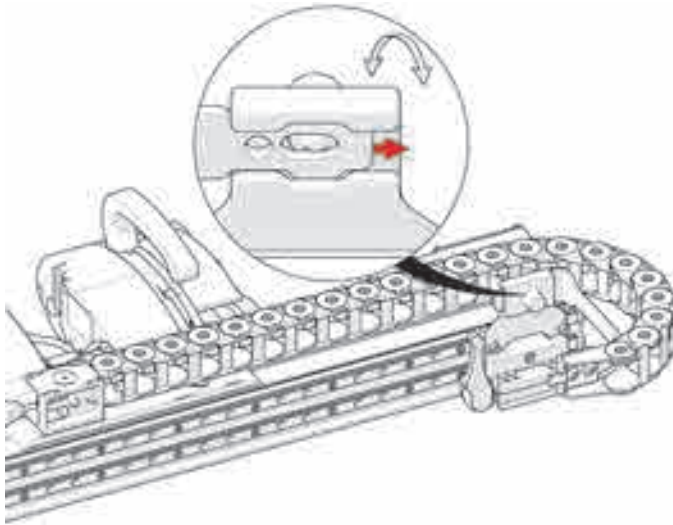

Figure 4-42 Slide bracket attaching to carriage
3. Slide the cable tray bracket until it locks in place (see Figure 4-42 on page 126).